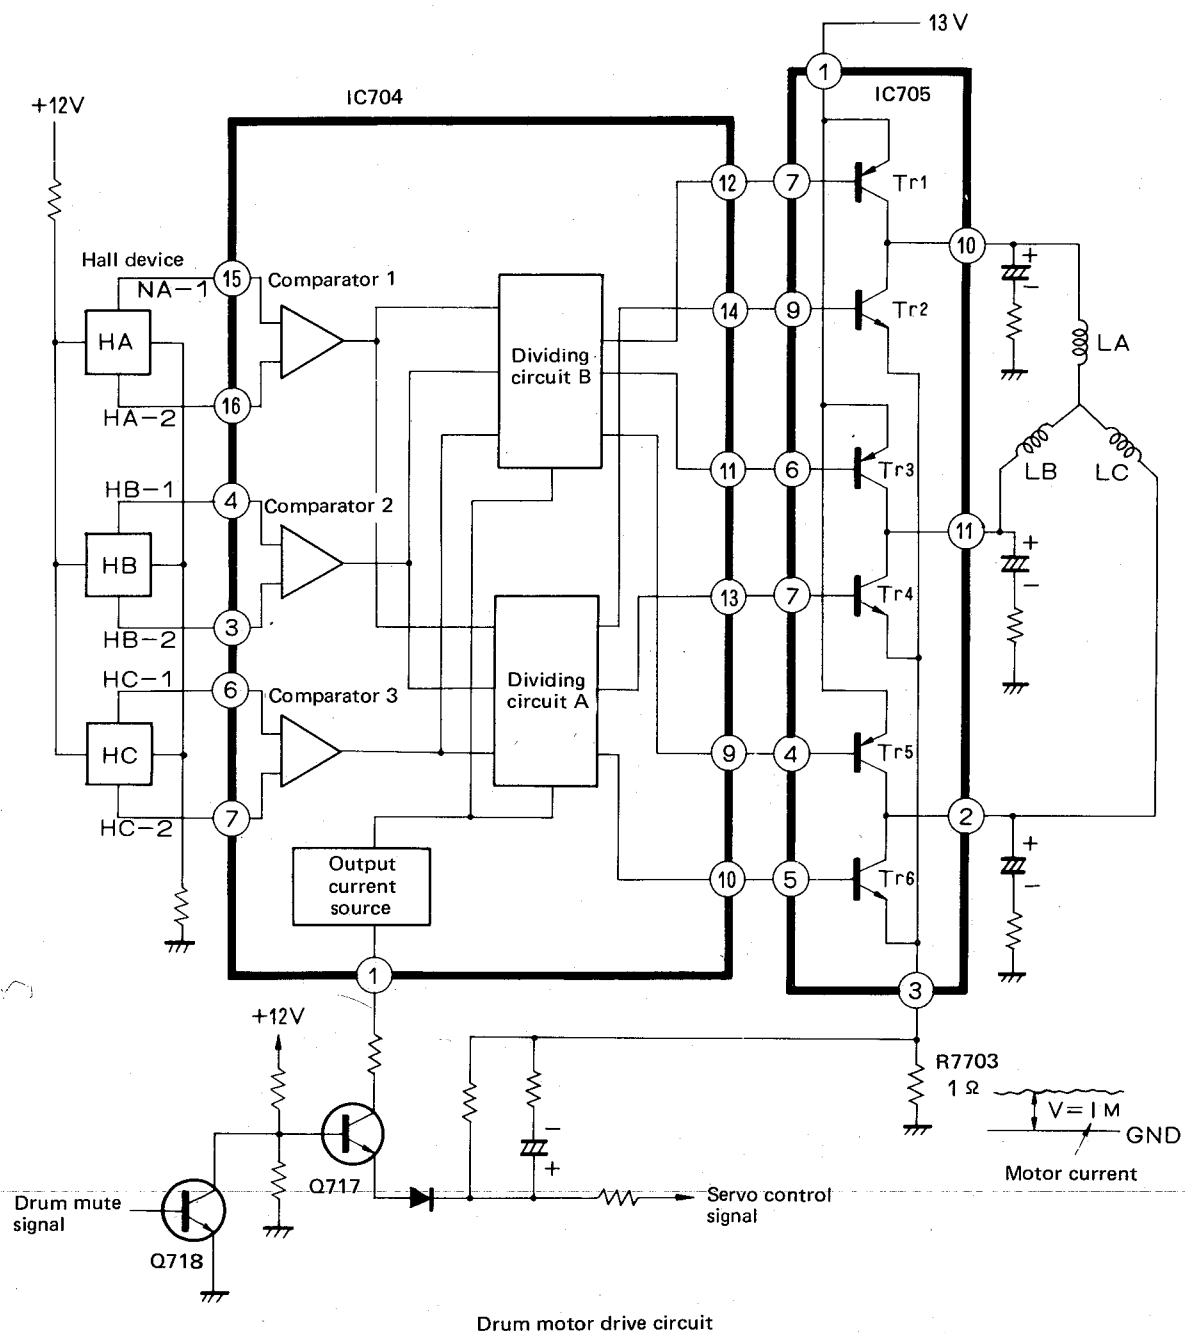
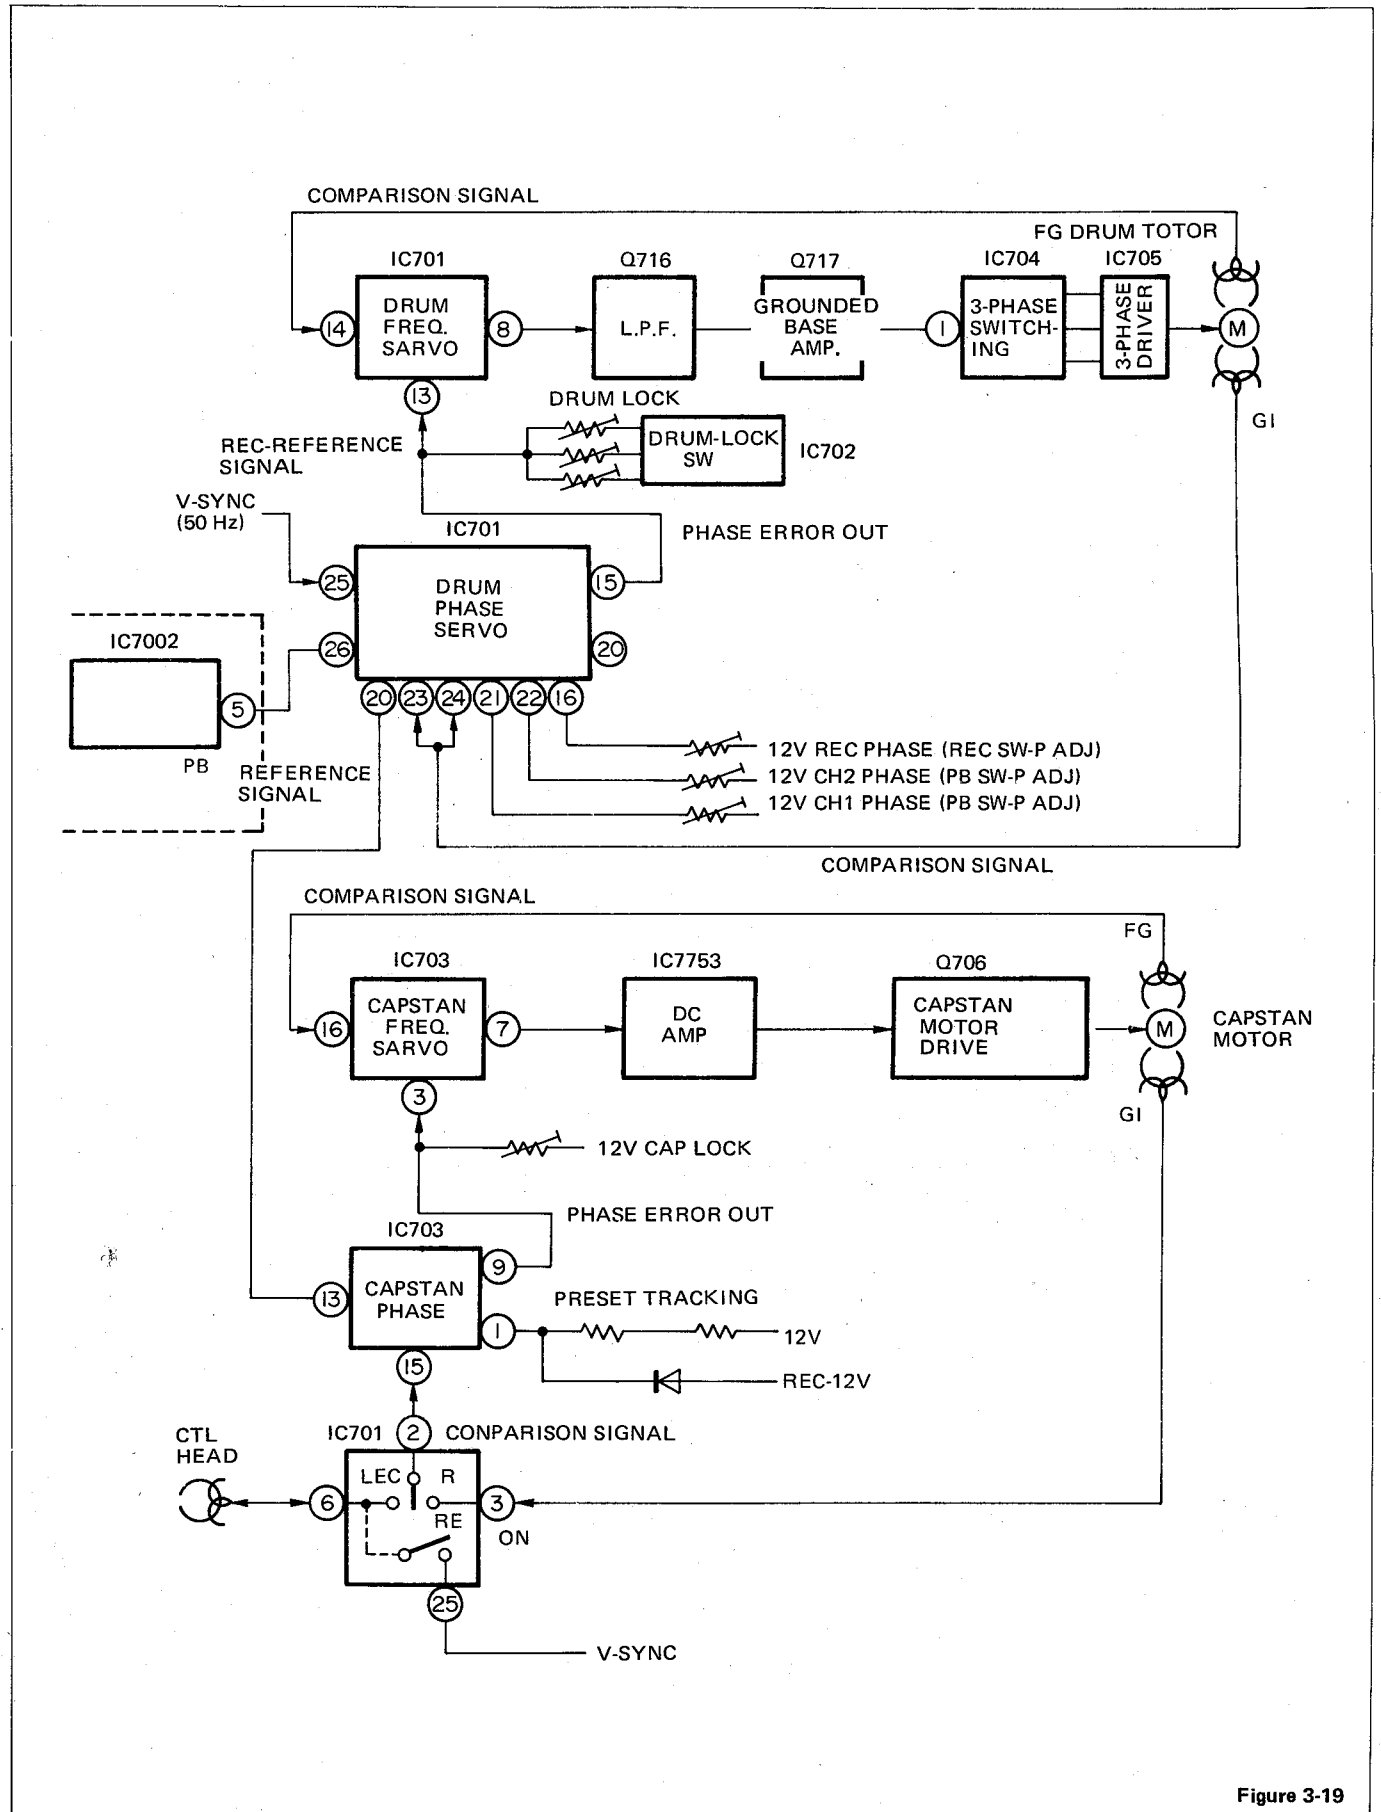

Figure 3-12
Figure 3-19
Figure 3-12 shows the drum motor drive circuit, Figure 3-19 operation of the drive circuit, and Figure 3-20 how the motor operates. As Figure 3-12 shows, comparators 1-3 detect outputs of the three Hall devices and dividing circuits A and B turn on and off Tr1-6 with comparator outputs to control the direction of motor rotation. The speed and phase of motor rotation are controlled by controlling the current output from pin (1) of i707 and emitter voltage of Q719 base ground amplifier with servo control signal (speed + phase). If the phase (speed) of drum rotation slows, servo control signal falls, the base-emitter voltage of Q717 rises, the collector current (current flowing at i704 pin 2) of Q717 increases, the output drive current of i704 increases, motor coil current increases, and phase (speed) rises finally. Part of the motor coil current is fed back to the emitter of Q717 to increase stability.